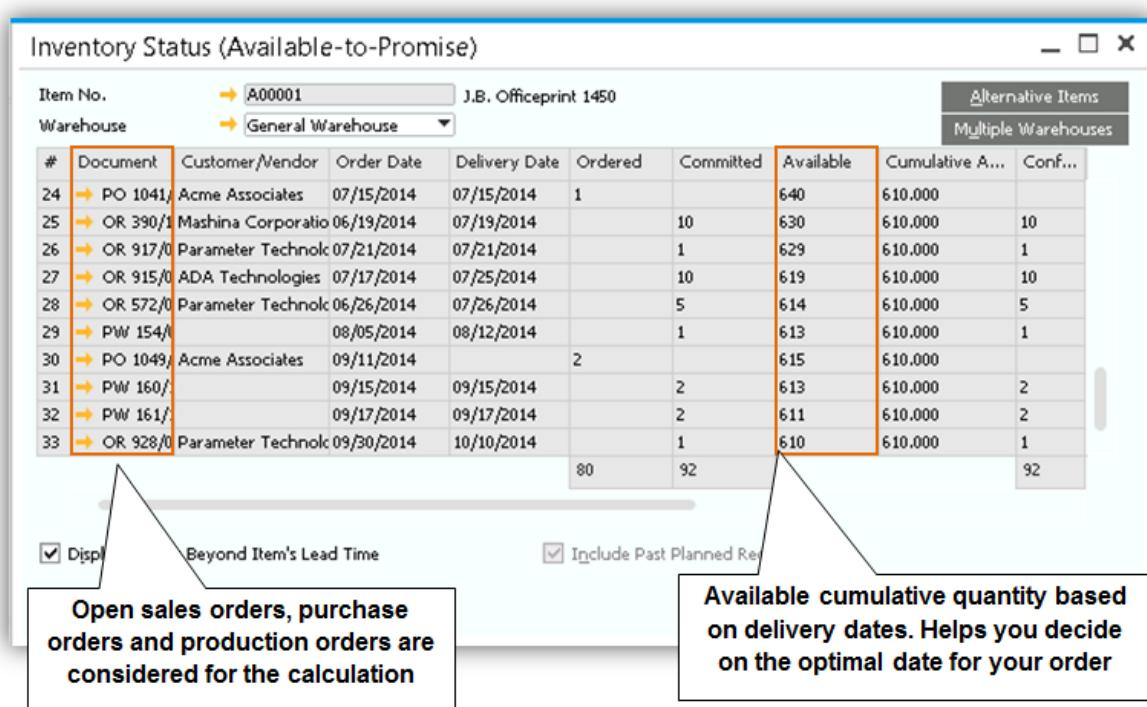

Figure 5-7: Available to Promise
- Display Available to Promise Report* – the report shows cumulative quantity by date, based on the report you can change the delivery date for that item. See figure 5-7